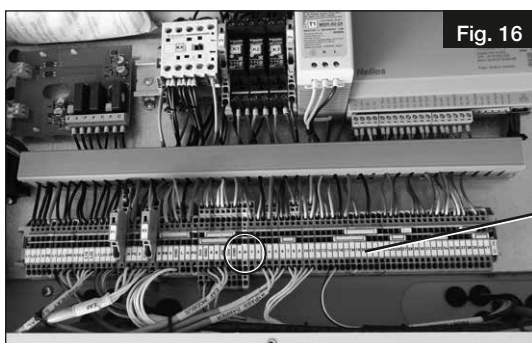

Fig. 16
3. Connect the controller cable to the marked terminals in the terminal box (Fig. 16) according to the wiring diagram.